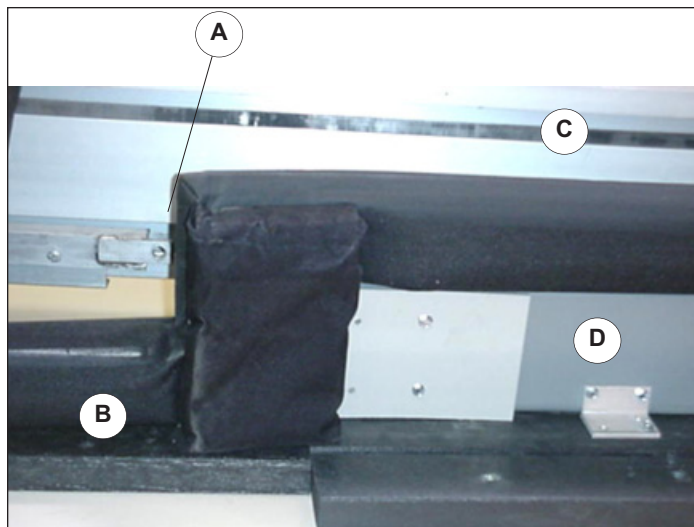
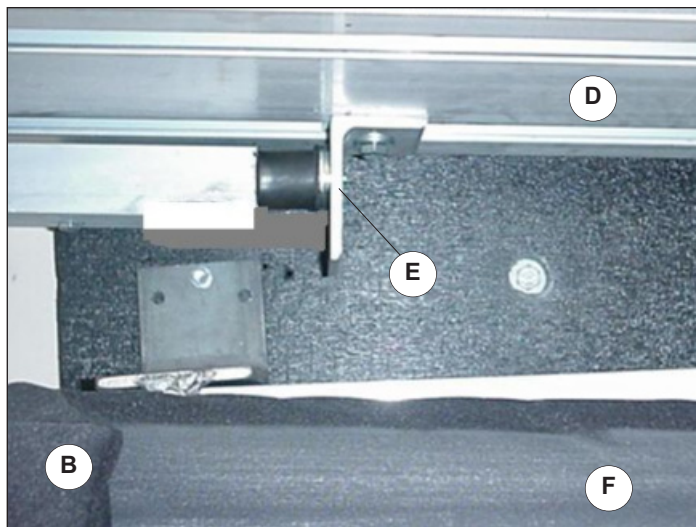

Figure 25.1
Figure 25.2
1. Adjust Follower Panel Lintel Seal (A) such that when the door is closed, the follower panel is tight to the foam pad and the air-seal (B) air flow is not restricted, Figure 25.1.
2. Bottom of Header (C), Bottom of Lintel Seal (D).
3. Adjust follower panel stop bracket (E) so the follower panel does not compress the air bag and restrict the air flow, Figure 25.2.
4. Front of Lintel Seal (F).